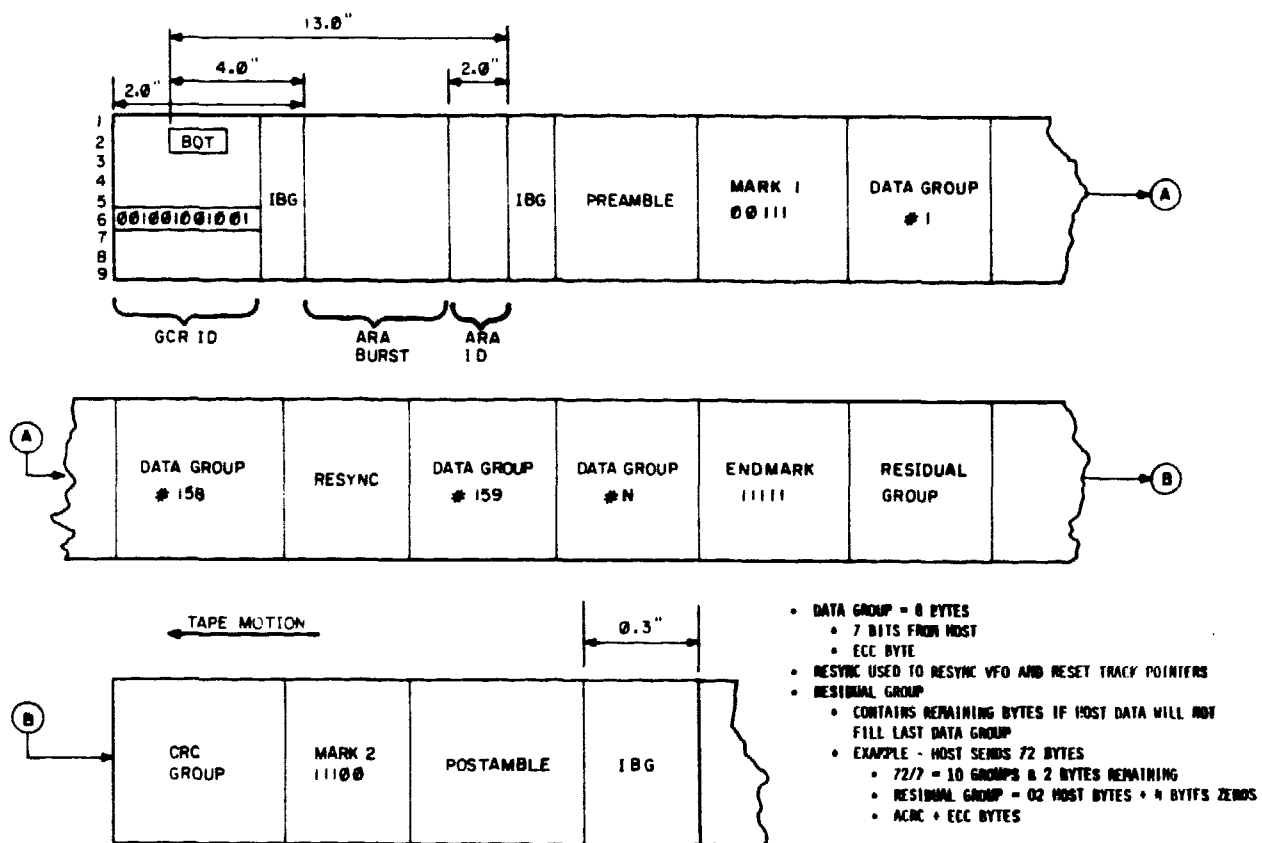

Figure 4-29. GCR TAPE FORMAT
4.9.3.2 GCR Data Block Format - The GCR data format requires not only preamble and postamble patterns, but also data cc version into groups, for each of which an Error Correcting Code (ECC) clearance is generated. Also, Cyclic Redundancy Checks (CRC's) and Auxiliary Cyclic Redundancy Checks (ACRC's) are added to the data to facilitate detection and correction of errors. Resynchronizing bursts are added for transfers over 1106 bytes to enable the read detection logic to resynchronize (see Figure 4-29).